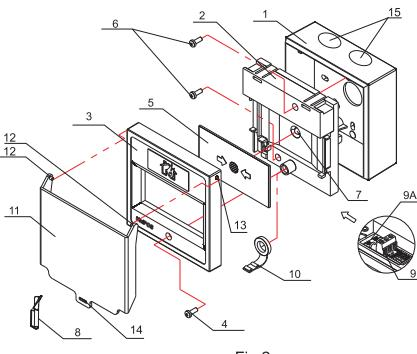

Fig.2
1. Tear off the breakable seal (pos.10, fig.2).
2. Open the protective cover (pos.11, fig.2).
3. Press the elastic element (pos.5, fig.2) in the designated by the arrows place. The build-in LED indicator lights up. The Conventional Fire Control Panel activates in "Fire condition".
3. Dismantle the cover (pos.3, fig.2) and replace the torn breakable seal.
4. Mount the cover back and lock the protective cover using the breakable seal (pos.11, fig.2).
- 1.1 Dismantle the detector by unscrewing the screws (pos.4, fig.2) and (pos.6, fig.2).
- 1.2 Successively add to the base of the manual call point the carrier unit, the elastic element (pos.5, fig.2) with the sticker to the cover, and the breakable seal (pos.5, fig.2). Screw the fixings (pos.4, fig.2) and (pos.6, fig.2).
- 1.3 Mount the protective cover (pos.11, fig.2) (if it is not factory mounted) to the cover (pos.3, fig.2), as carefully position the fixings (pos.12, fig.2) into the intended for that purpose openings (pos.13, fig.2).
- 1.4 Pass the spare end of the breakable seal through the opening of the protective cover (pos.14, fig.2). The protective cover is fixed to the front cover of the detector.
- 2.1 Dismantle the manual call point by unscrewing the screws (pos.4, fig.2) and (pos.6, fig.2).
- 2.2 If nozzles will be mounted, take off the plastic from the vacant places on the base (pos.15, fig.2). The openings with diameter Ø20 allow for connecting the nozzles.